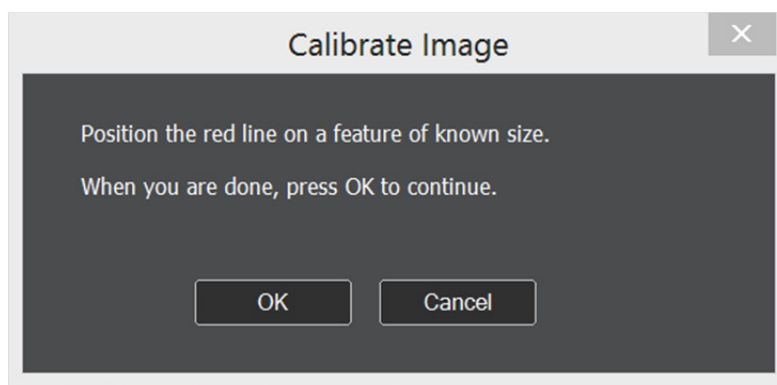

Figure 20: Magnification calibration instructions.
- 2 Follow the instructions on screen, as shown in Figure 20 and a red line will appear on the image